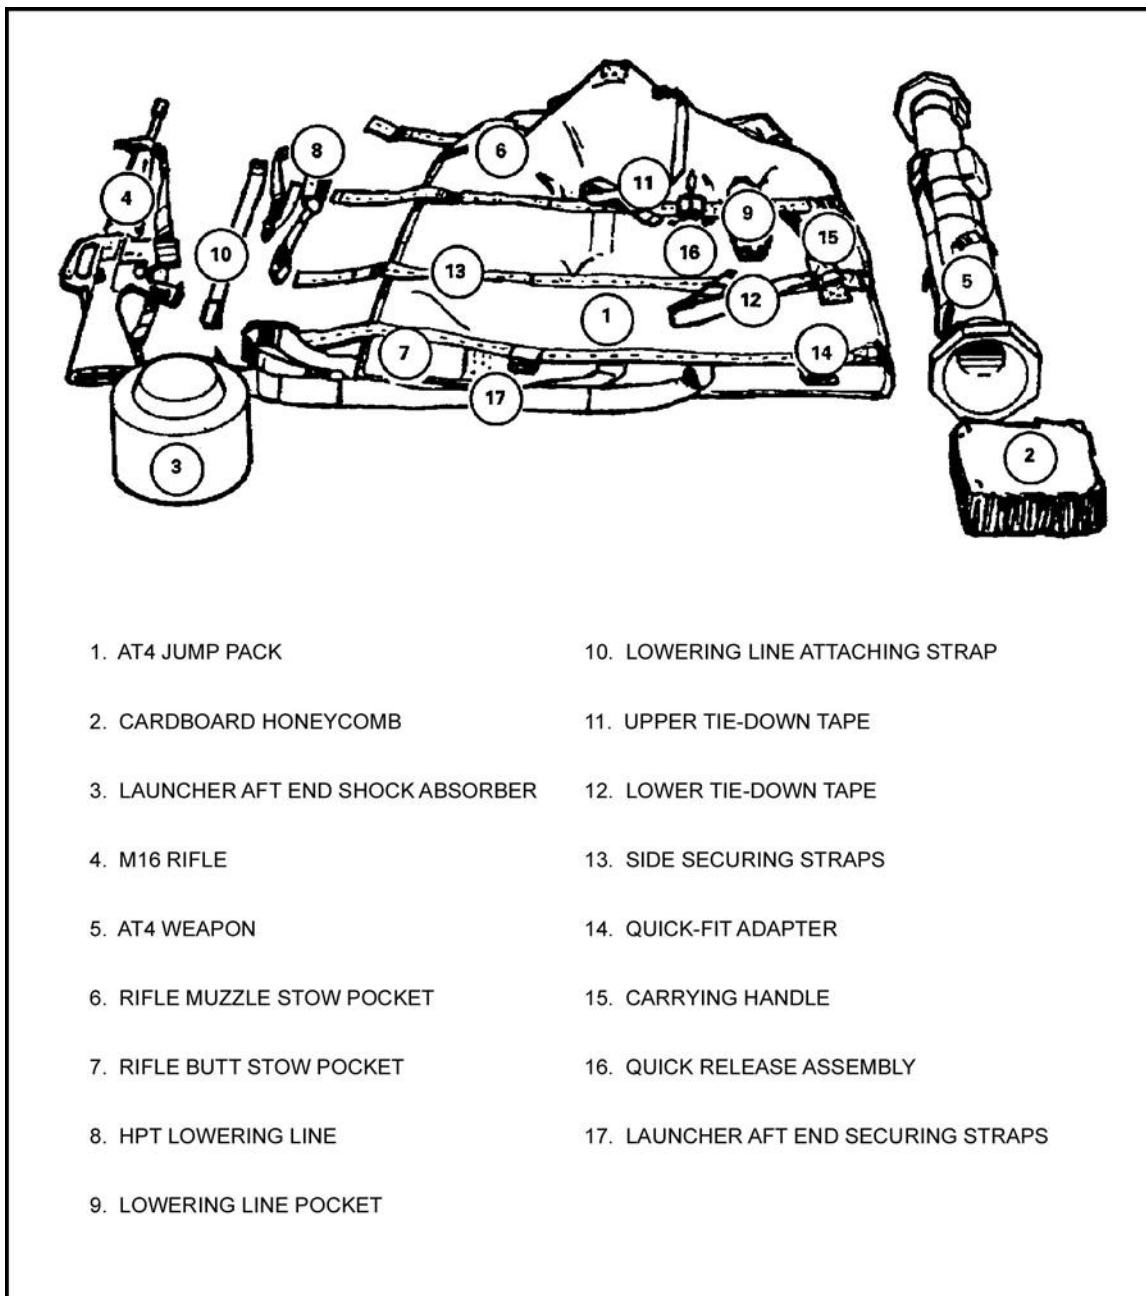

Figure 12-47. AT4 nomenclature.
b. The shock absorber (polyurethane/honeycomb) configuration at the aft end of the jump pack is intended to prevent damage to the AT4 weapon round during ground impact. Upon landing, the parachutist can rapidly gain access to the weapon round and M16 by pulling the quick releases rigged into the jump pack securing straps. The total assembly is shown in Figure 12-47.